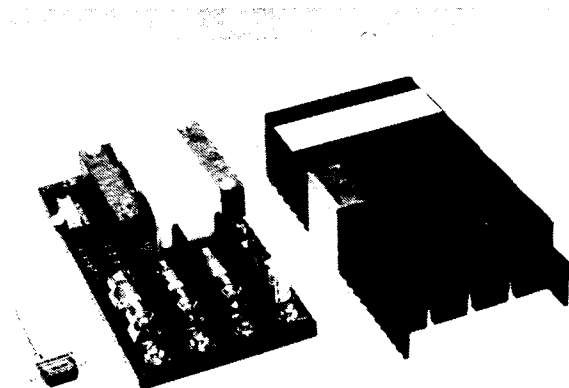

Figure 4.3 — Fusing for 3-Phase Power Module
9. A fuse is located in series with each of the 3 incoming AC lines. The fuses are 3/4 Amp, 600 volt, 200 kA interrupting rating. These fuses are internal to the Power Module and can be accessed by removing the three screws holding the cover in place. (See Figure 4.3) If it is necessary to replace fuses, make sure all voltage has been removed from the IQ Generator before removing/replacing the fuses.